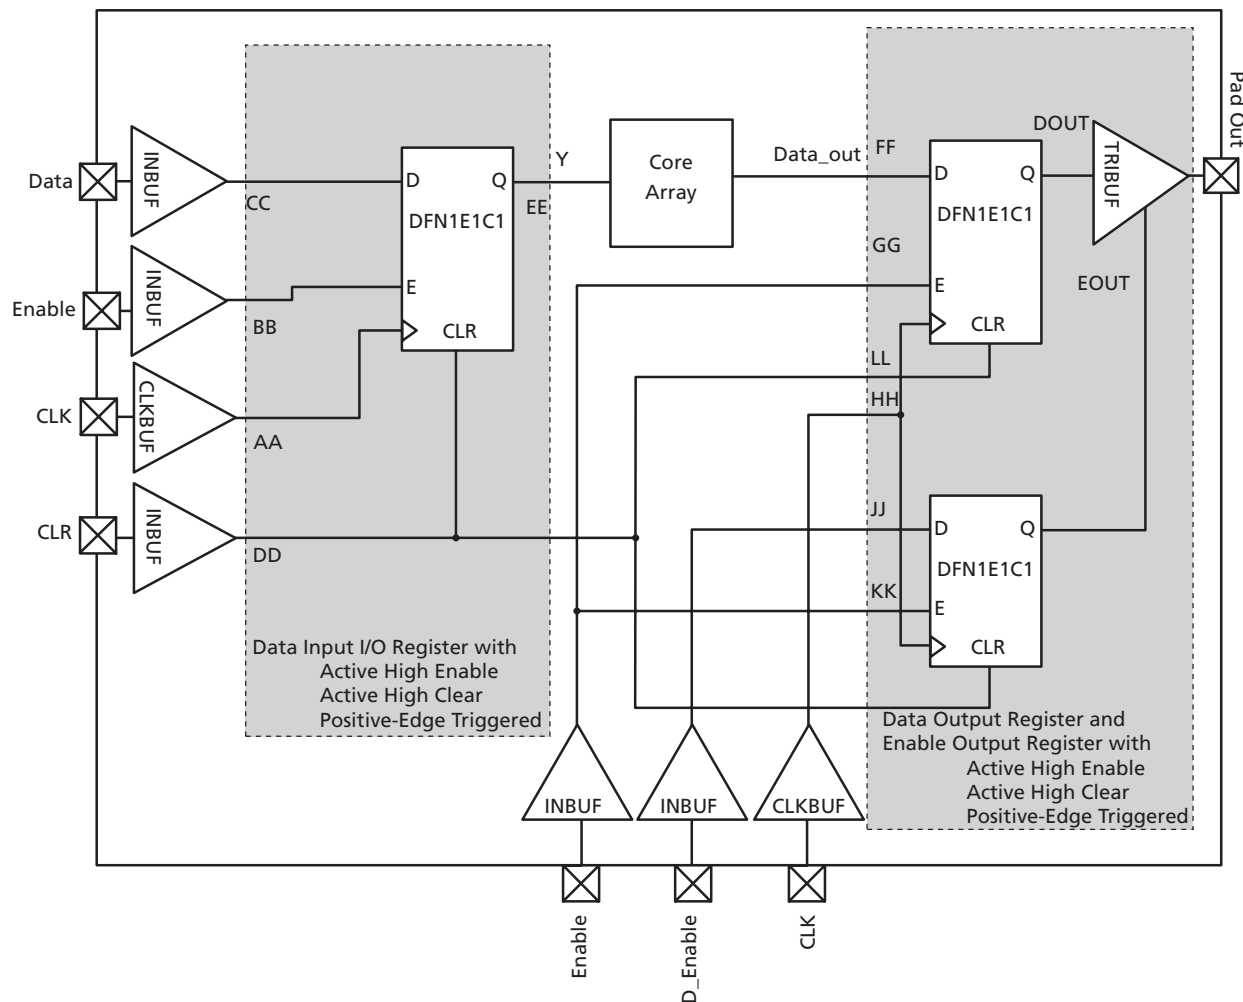

Figure 2-27 • Timing Model of the Registered I/O Buffers with Synchronous Enable and Asynchronous Clear
* See Figure 2-27 on page 2-76 for more information.